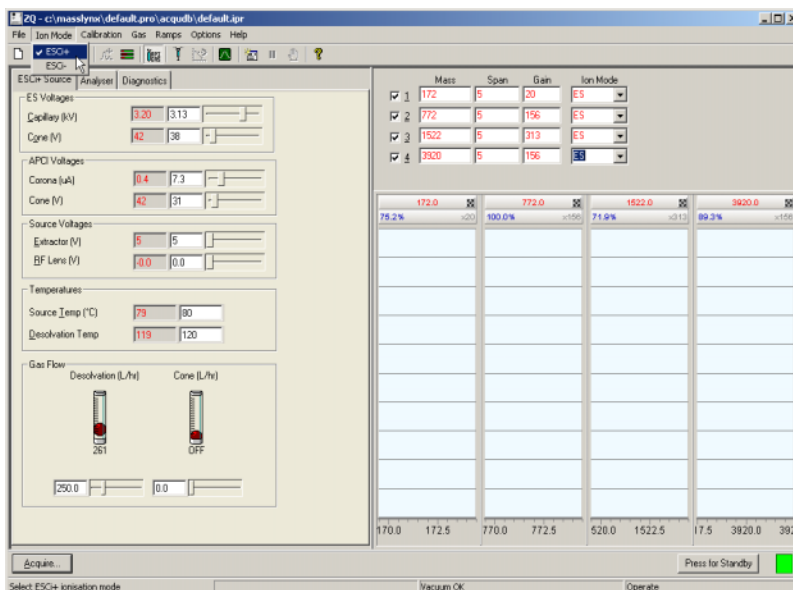

Figure A-6 Selecting the ESCi+ or ESCi- Ionization Mode
2. Select **Ion Mode** > **ESCi+** or **ESCi-** to enable the positive or negative ESCi ionization mode (Figure A-6).